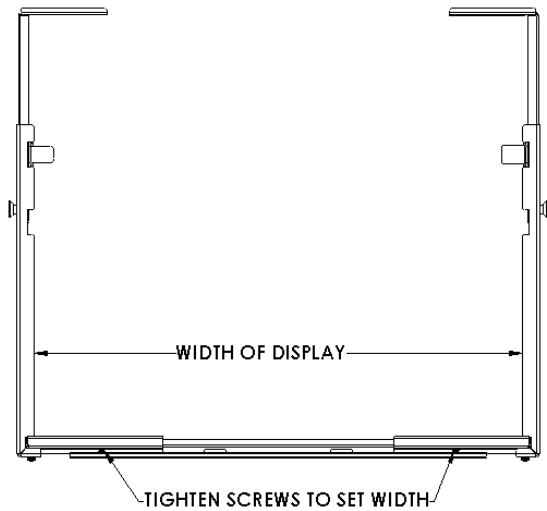

Figure 11. Measure Width of Display
1. Determine the width of your monitor (see Figure 11). If necessary, use a tape measure.
3. Tighten all four cap screws (CC) on bottom of trays (20 and 30). Refer to Figure 11.